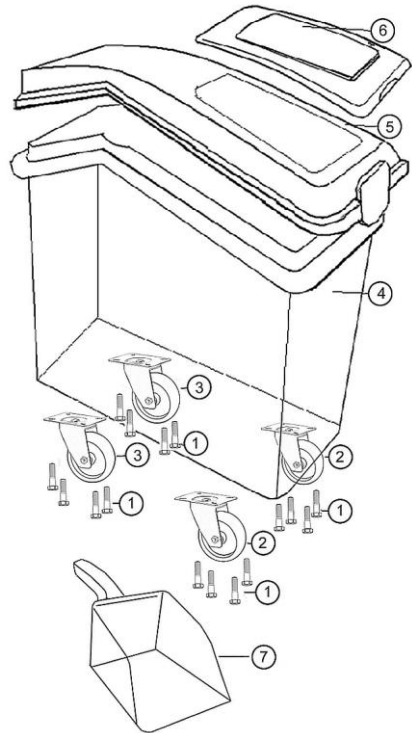
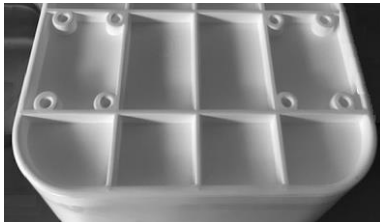

Fig. 1
Fig. 2
1. Screw the perforated plates of the two fixed castors (2, Fig. 1) to the components at the front of the storage container underside (Fig. 2) each time using four cross slotted screws (1).
2. Screw the perforated plates of the two swivel castors (3) to the intended components at the rear of the storage container underside (Fig. 2) in each case using four cross slotted screws (1).
4. Place the lid (5) on the storage container (4).